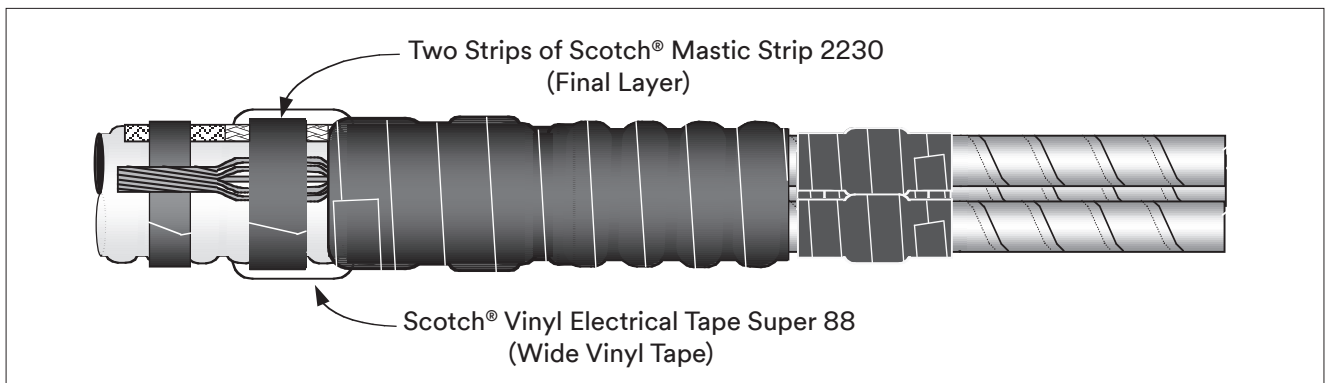

Figure 11
- 3.14 Wrap two additional strips of Scotch® Mastic Strip 2230 directly over previously applied mastic. (Figure 11).